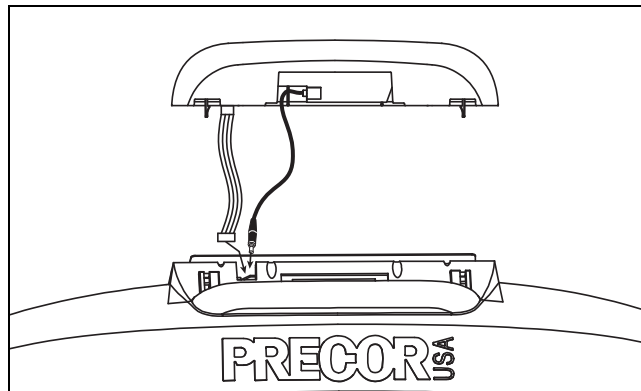

Figure 15: Feed cables through the entertainment option cover
8. Hold the integrated receiver above the display console, and feed the audio cable through the opening in the base of the display console. Let the audio cable hang loose. See Figure 15.
9. Connect the 5-wire entertainment option cable to the display console. See Figure 15.